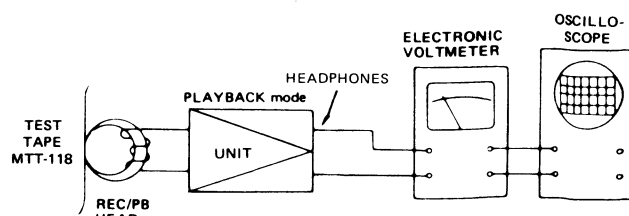

Figure 5-5
- 1) Make a connection of instruments as shown in Figure 5-5.